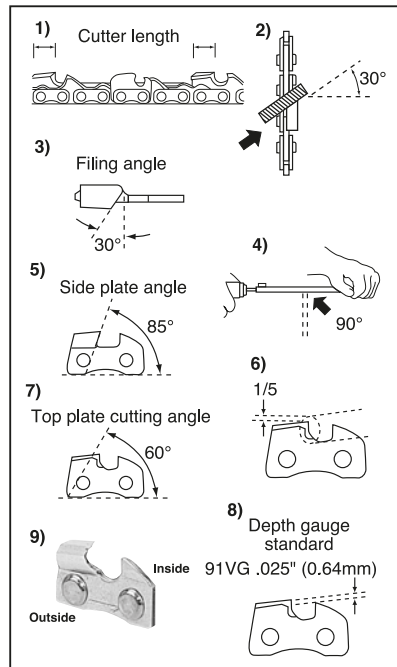

FIG.21
## 9.9 SHARPENING (FIG.21)
- Use a round file specific for the chain fitted. Observe the sharpening angle (Fig.21 parts 2, 3, 5, 7, 8).
- Sharpen by filing from the inside outwards (Fig.21 part 9) all the teeth on one side and then all the teeth on the other.
- Position the file to project 20% of its diameter above the cutter (Fig.21 part 6).
- Make sure every cutter is filed to the same length and angle, and that all depth gauge links are the same height (Fig.21 part 1).